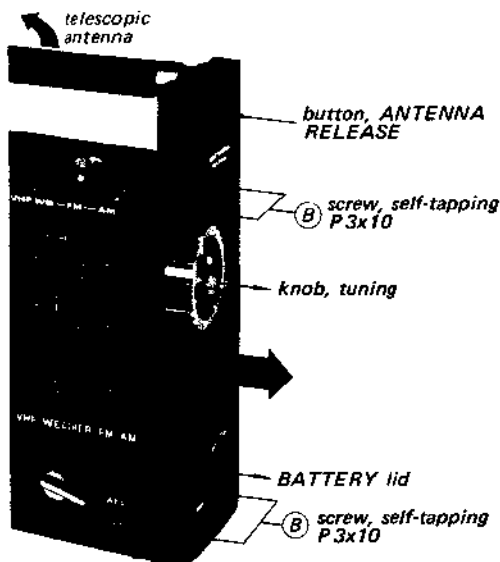

Fig. 2-2.
3. Press down the ANTENNA RELEASE button shown in Fig. 2-2.
5. Remove the four screws labeled (B) in Fig. 2-2.
6. Pull out the right side cover with the tuning knob and BATTERY lid as shown in Fig. 2-2.